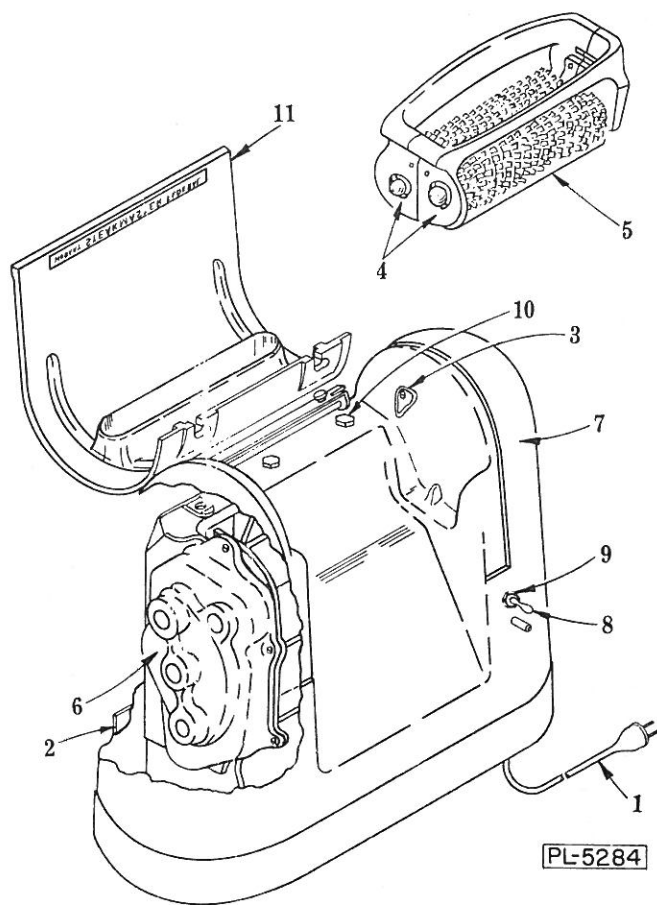

FIG. 1
CONNECTIONS: Each machine is furnished with cord and plug (1, Fig. 1). Before plugging into socket, be sure the line current available is the same as specified on the machine serial plate (2).
- B.3 Release latch (3, Fig. 1) and lift out the lift-out unit assy.
- B.5 Remove strippers (5, Fig. 1) from roller assemblies.
LUBRICATION: This machine is gear driven and has special oil impregnated bronze bearings throughout. The gears, sealed in a cast transmission case (6, Fig. 1), operate in an oil bath. Once a year, have a Hobart service technician check and replenish the oil as required. The motor is oil lubricated with large capacity oil reservoirs, and should be checked annually. To properly lubricate the motor, the outside housing or body (7, Fig. 1), should be removed. To remove the body, unlock and lift out the roller or tenderizer Unit (4). Then, disassemble the switch (8) from the body by removing the outside retaining nut (9). Next, remove the three hex head bolts (10) that retain the body (7). Lift off the body. The motor is then exposed for easy lubrication and inspection. Also see paragraph B.6.